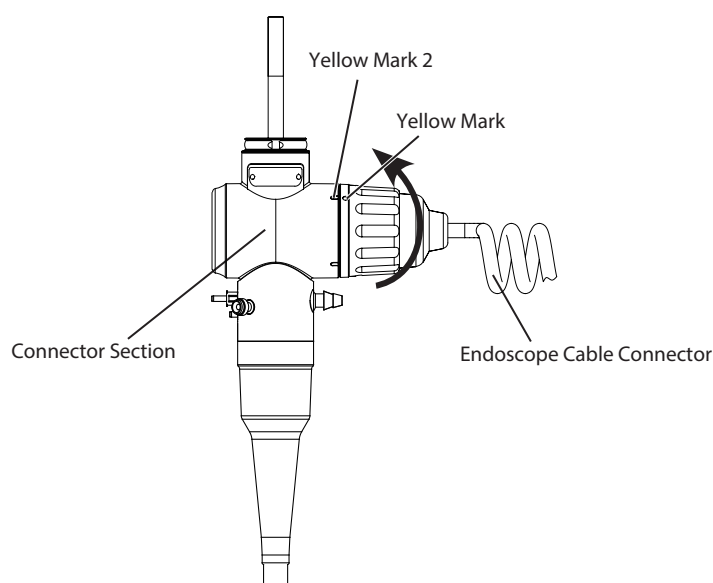

Figure 3-25 Endoscope Cable Connection 2
2. As shown in Figure 3-25, rotate the endoscope cable connector clockwise to align the yellow mark on the endoscope cable connector with the yellow mark 2 on the electrical connector of the endoscope until a click is heard.